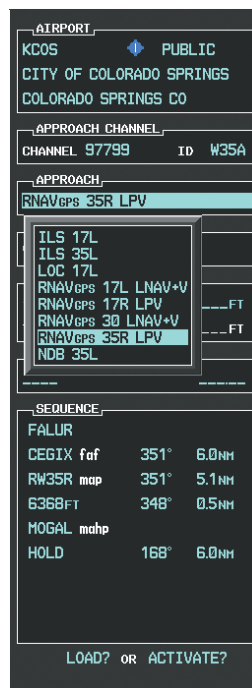

Figure 5-132 List of Available Approaches
c) Press the ENT Key. A list of available approaches for the destination airport is displayed as in Figure 5-132.
d) Turn either FMS Knob to select the RNAV LPV approach for 35R as shown in Figure 5-132.